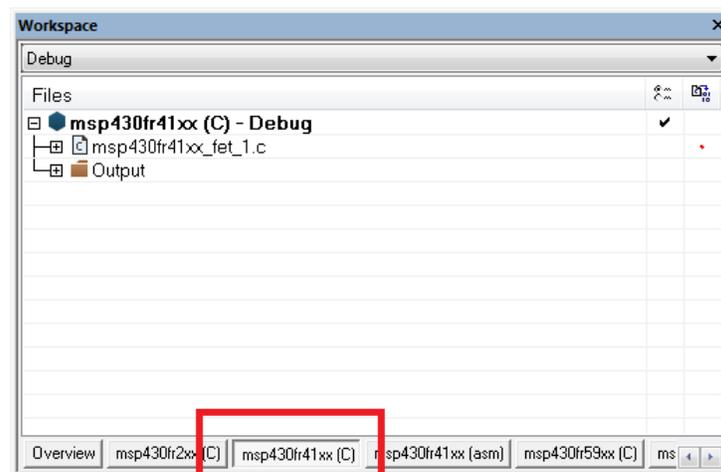

Figure 1. Activate Project
3. Click on the tab at the bottom of the workspace window that corresponds to the MSP430 device (MSP430xxxx) and desired language (assembler or C) to set a project active (see Figure 1).